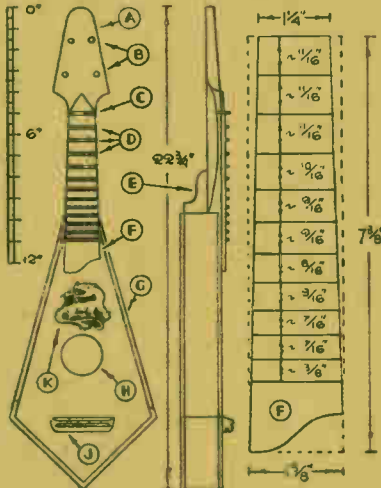

Fig. 1—Front and side elevation, with fingerboard shape and sizes
A front and side elevation appears at Fig. 1 to give a clear impression of the work. The alphabetical letters indicate (A) the handle head, (B) peg holes, (C) nut, (D) frets, (E) handle
Regarding the finger-board (F), an enlarged view is given at Fig. 1, together with the exact fret positions. The wood is  $\frac{1}{8}$ in. thick and should be planed true prior to shaping it to correspond with the handle.